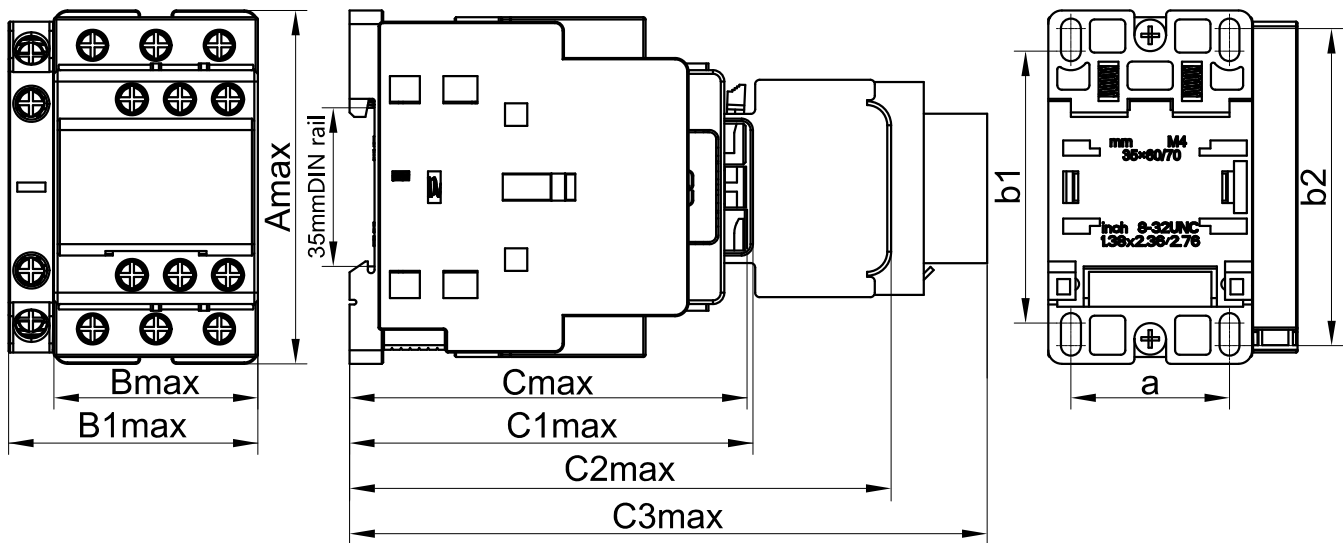
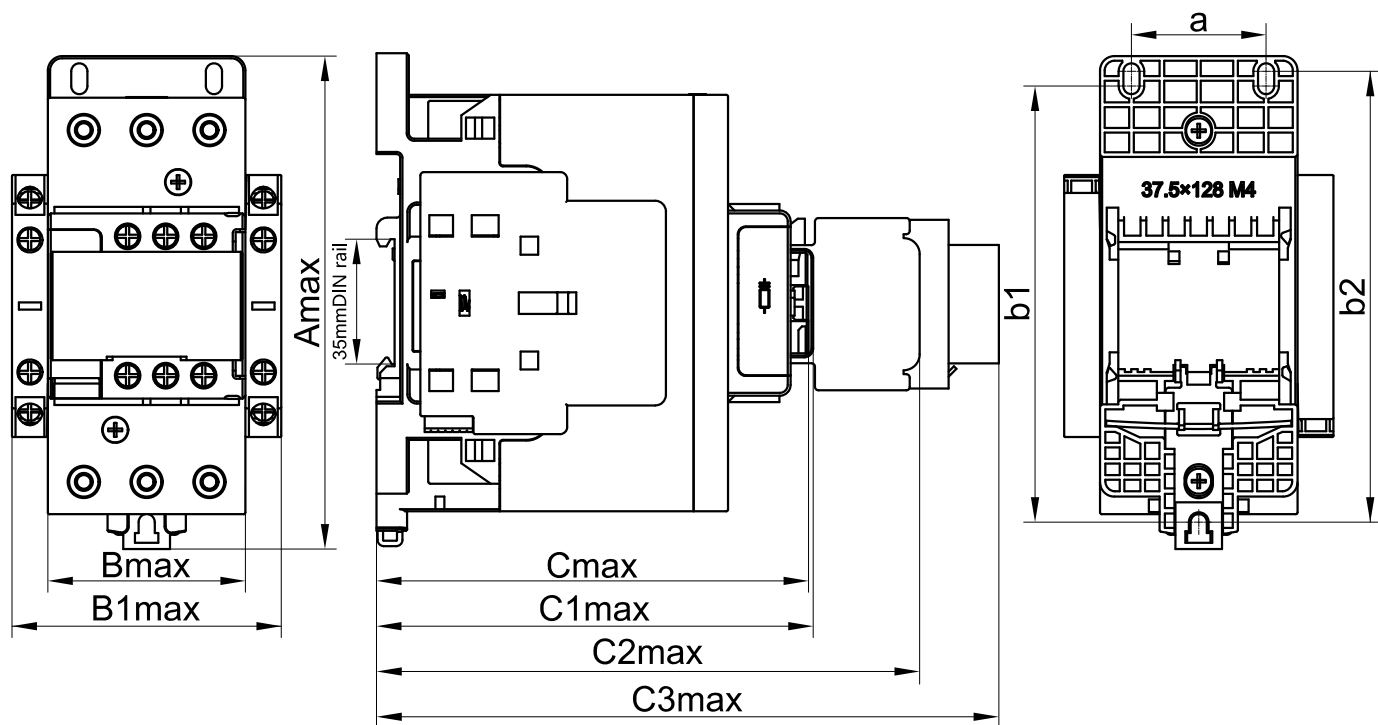
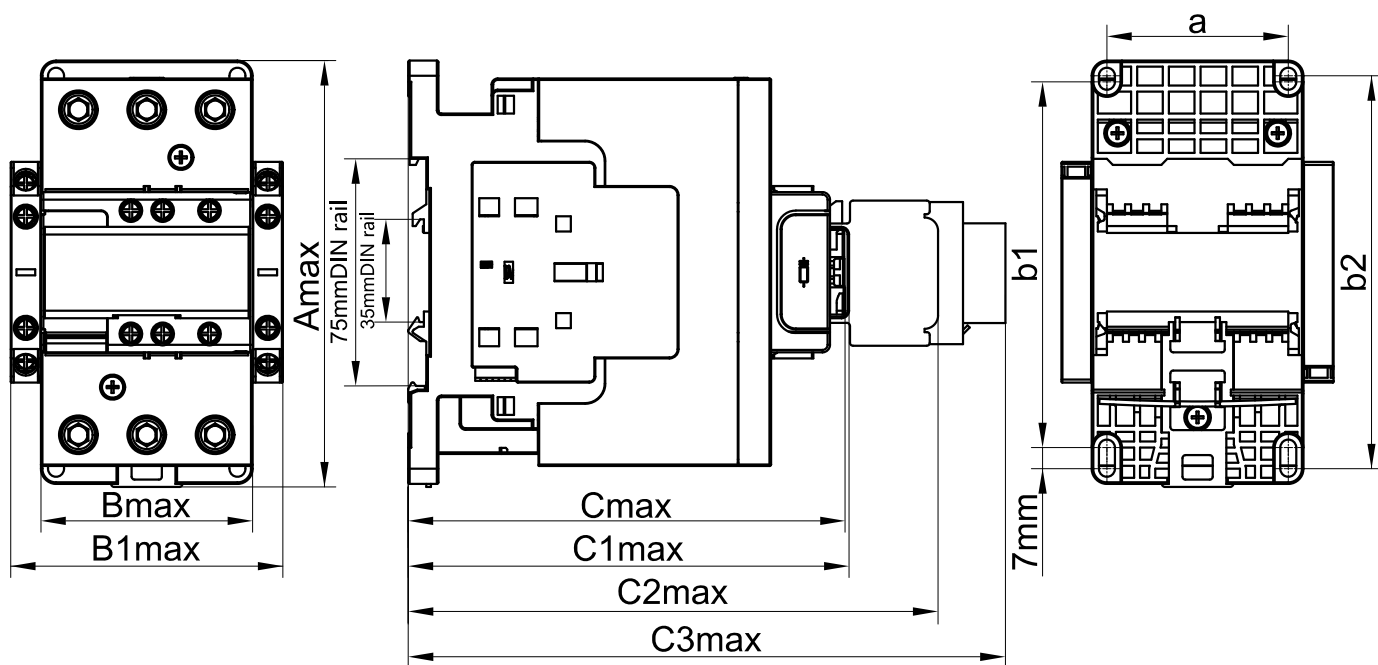

Fig. 7 HDCX-09~38
Fig. 8 HDCX-40~65
Fig. 9 HDCX-80~95
- The contactor overall installation dimensions are shown in Figure 7, Figure 8, Figure 9 and Table 3.